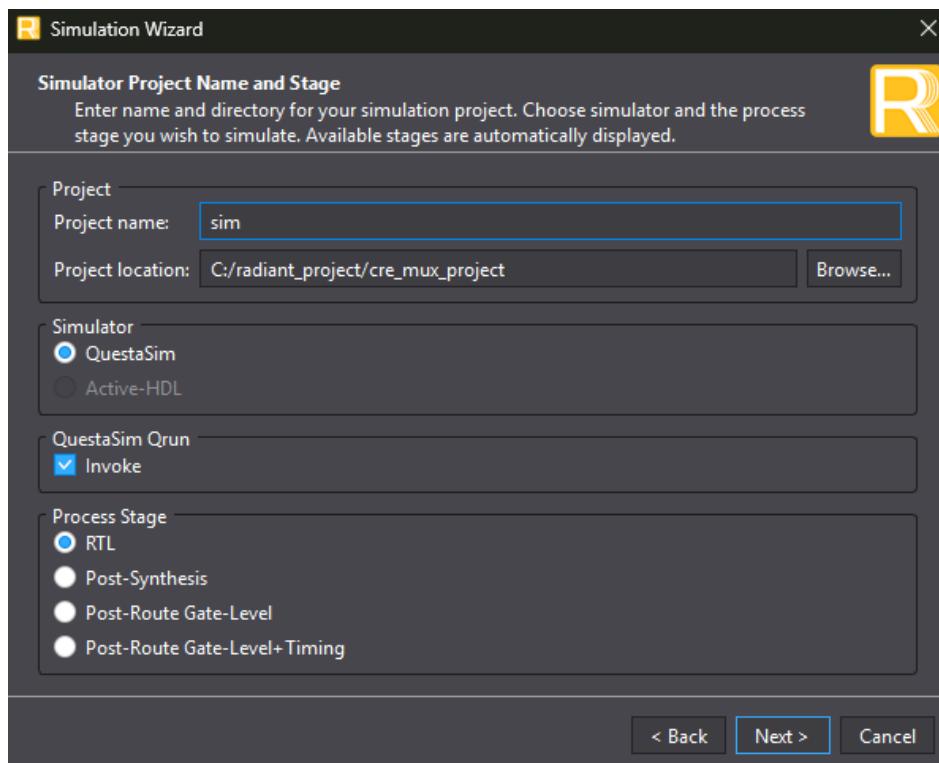

Figure 5.5. Simulation Wizard
1. Click the  button located on the **Toolbar** to initiate the **Simulation Wizard** shown in Figure 5.5.